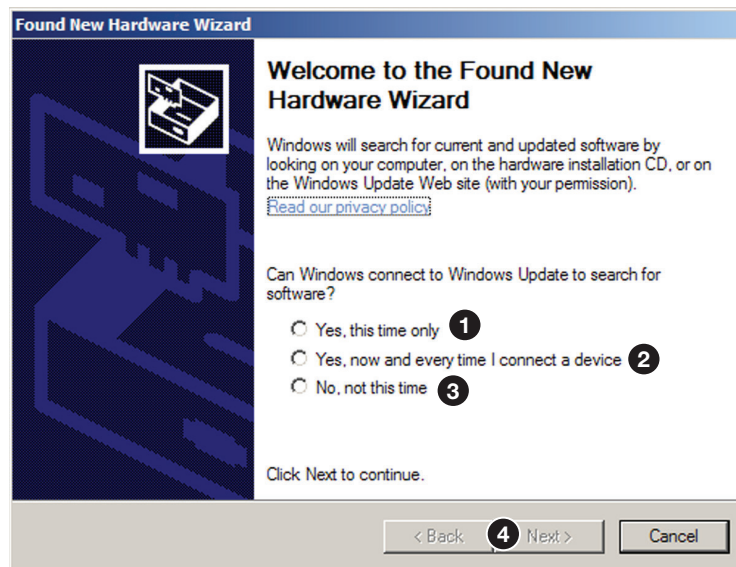

Figure 15. Found New Hardware Wizard Opening Screen
If this is the first time the SSP 200 has been connected to the PC, the Found New Hardware Wizard opens (see figure 15).
2. Click on the appropriate radio button (see figure 15).
- Select the **Yes, this time only** radio button (1) if you want your computer to connect to Windows Update only this one time.
- Select **Yes, now and every time I connect a device** (see figure 15, ②, on the previous page) if you want the computer to automatically connect to **Windows Update** to search the web every time the processor is connected to this USB port.
- Select **No, not this time** (③) if you do not want the computer to connect to **Windows Update** to search the web at this time (for example, if the driver is already on your computer).
3. Click **Next** (④).